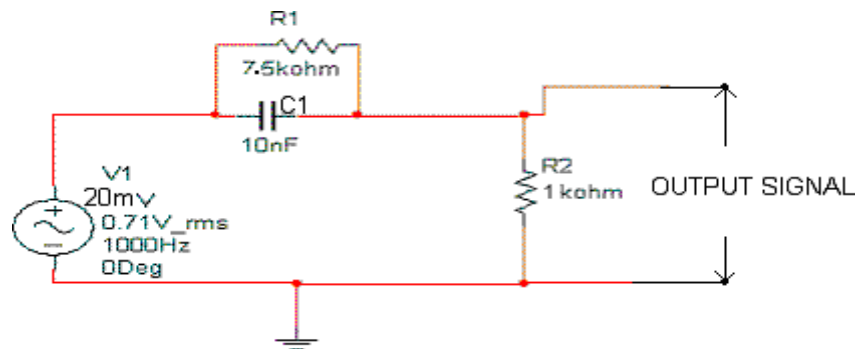

Fig.1.Pre-emphasiscircuit
1. Connect the circuit as per circuit diagram as shown in Fig.1.